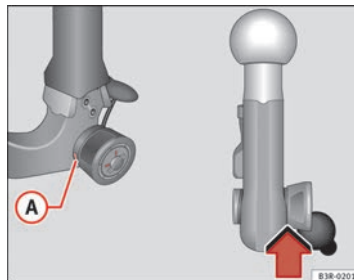

Fig. 157 Removable towing bracket: Safety check
- Check that the green marking **(A)** ⇒ **fig. 157** on the knob is inside the black zone marked on the ball joint.